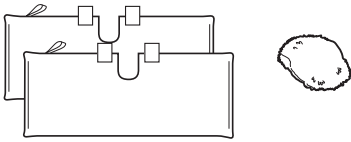

fig. 32
- 1 We recommend washing your cleaning pad separately from other fabrics to avoid picking up lint. For optimal cleaning performance pads may need to be washed up to (3) three times. **Only use liquid detergent (no powder detergent). Do not use any fabric softeners or bleach.** Line dry. Do not tumble dry. (fig. 32)